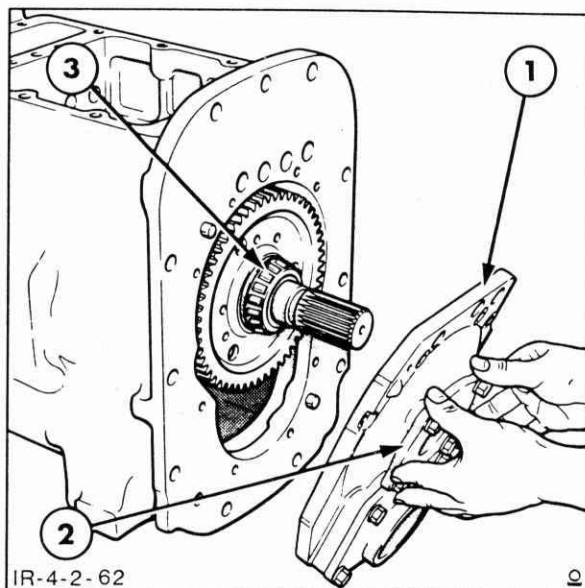

Figure 4-156
4. Install the output shaft into the transmission case from the rear end and mate up with the rear input shaft. Temporarily support the output shaft as shown in Figure 4-156.